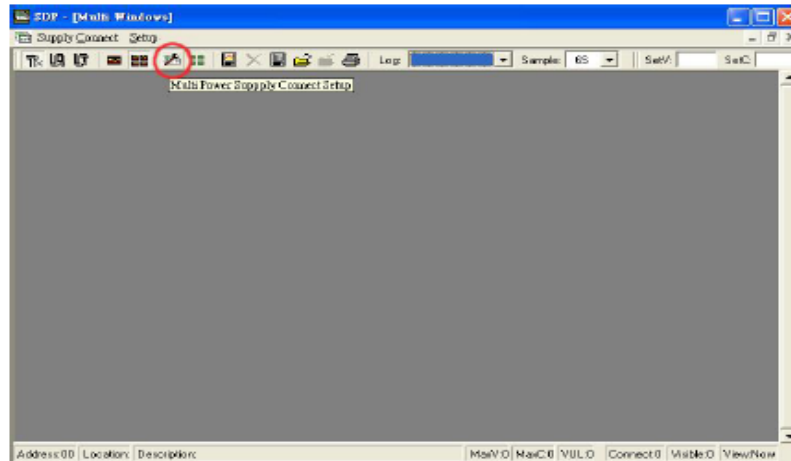
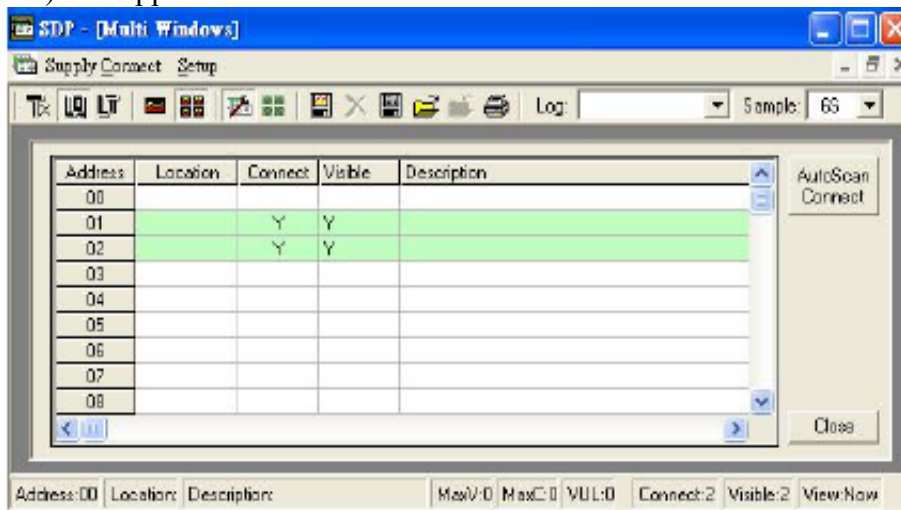

Figure 8.5.1a Multi Window
Figure 8.5.1b Multi Power Supply Connect Setup.
2. A **Multi Windows** Window (Figure 8.5.1a) will appear.
3. Click on the icon (circled in red in figure 8.5.1a), a **Multi Power Supply Connect Setup** (Figure 8.5.1b) will appear.
4. Click on **AutoScan Connect**, the window will show the connected power supply indicated as “Y” as shown in Figure 8.5.1b.